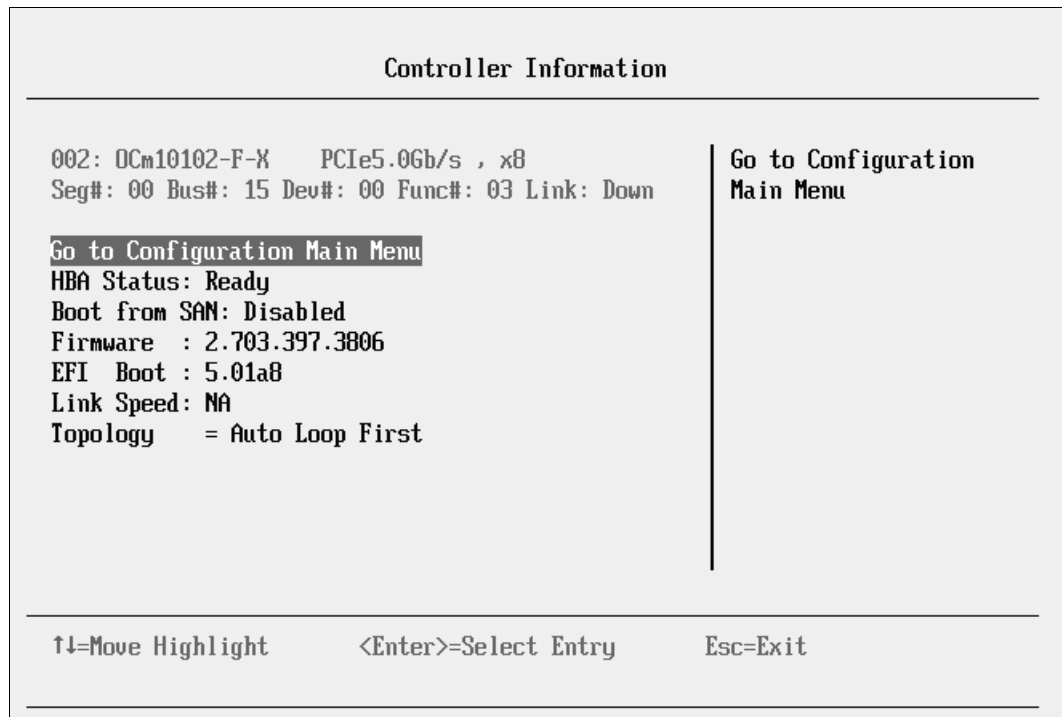

Figure 9-120 Controller Information window
- In the Controller Information panel (Figure 9-120), review the firmware information, and ensure that you are using the latest code levels that are certified by your SAN vendor. Then press Esc.